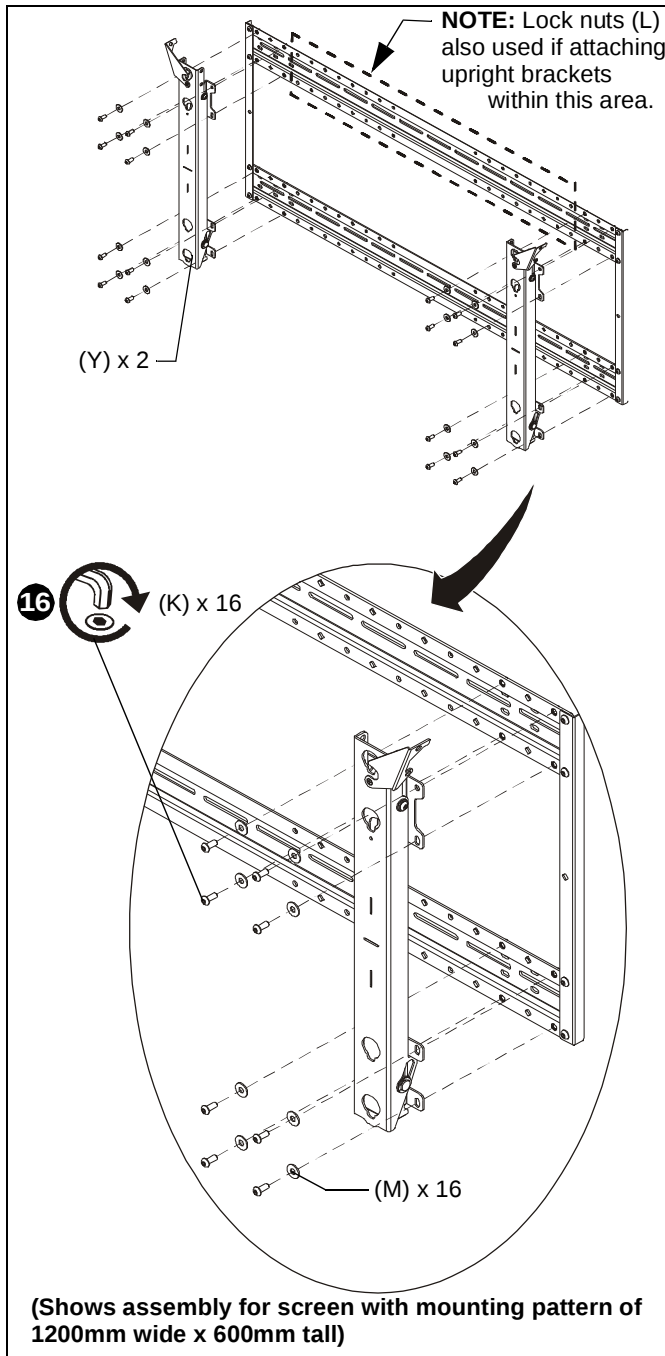

Figure 11
16. Attach two upright brackets (Y) to wall plate assembly using eight 5/16 x 3/4" button head screws (K) and 5/16" washers (M) per upright bracket. (See Figure 11)
**IMPORTANT !** : If attaching upright brackets to a screen with a mounting pattern **OTHER THAN** 1200mm wide x 600mm tall, also use the 5/16" lock nut (L) in addition to the button head screws (K) and washers (M).